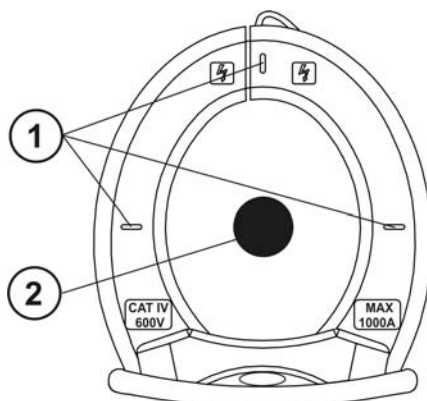

Fig. 2: Alignment marks
Put the conductor within the jaws on intersection of the indicated marks as much as possible (see Fig. 2) in order to meet the meter accuracy specifications
2. Put the conductor to be tested inside to the center of clamp jaw to perform accurate measurements. Consider the notches on jaws as reference (see Fig. 2). The reading will be displayed